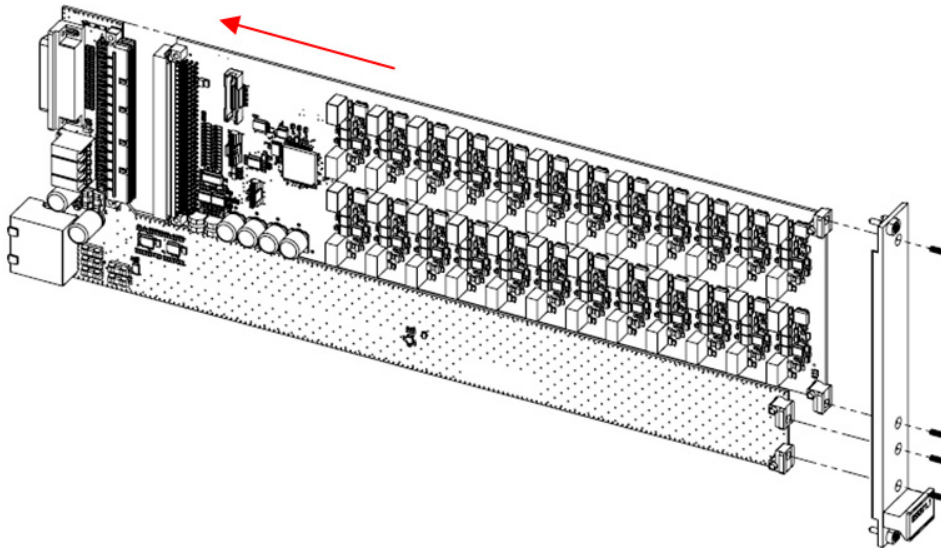

Fig. 2-4 Assembling the ES4435.1 in the ES5371.1
- Carefully slide the ES4435.1 into the ES5371.1 (see Fig. 2-4; in the direction of the red arrow).